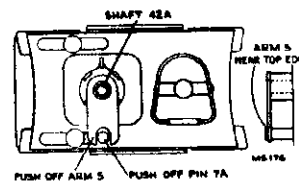

FIG. 7
71188	Support—Turntable mounting support and guide rails support (fig. 7)
71239	Washer—Cork washers (1 set) for turntable (fig. 7)
2. Place push-off arm 5 over push-off cam shaft 42A, and engage push-off plate pin 7A near the top edge, fig. 7. Tighten set screws.